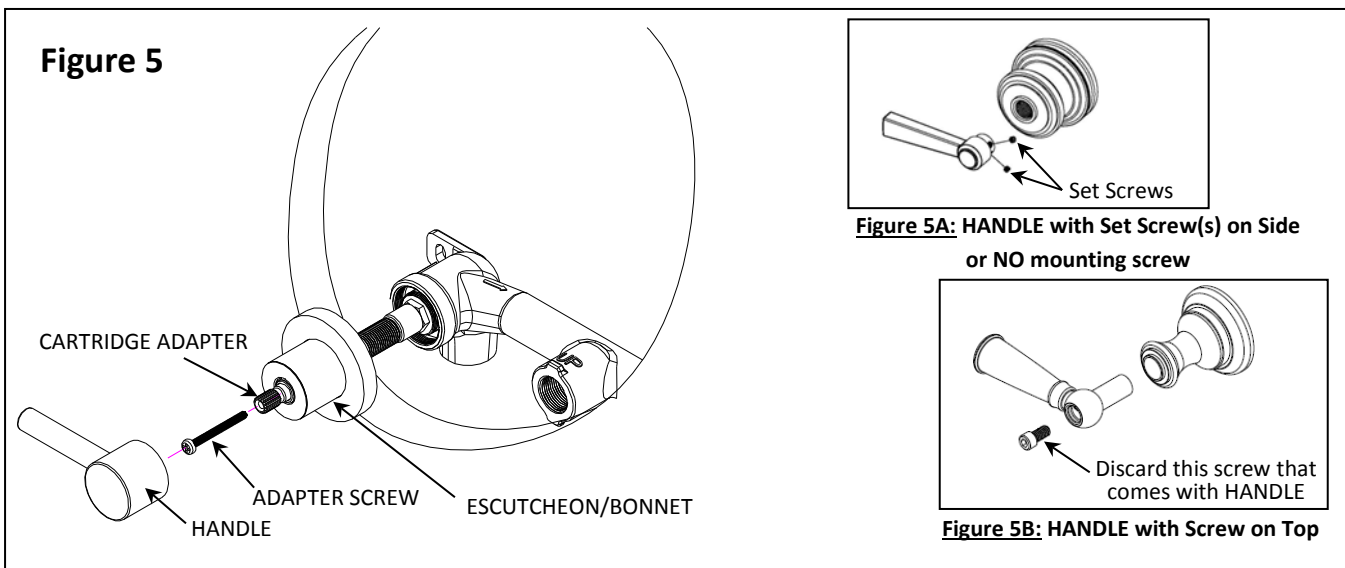

Figure 5
1. In **Figure 5**, ensure cartridges in full closed position, use previously removed ADAPTER SCREW to loosely install CARTRIDGE ADAPTER onto 20 tooth CARTRIDGE STEM. Temporary install the HANDLE and check alignment.